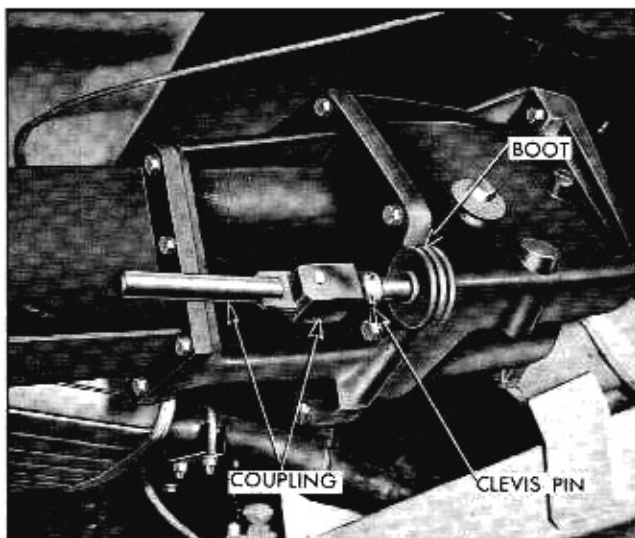

Fig. 7-8 Control Rod Coupling Assembly
4. Remove cotter pin and clevis pin securing control rod coupling to manual shift shaft (Fig. 7-8).
2. Install manual shift shaft and control rod coupling boot (Fig. 7-8).
3. Install control rod coupling on manual shift shaft and secure with clevis pin and cotter pin (Fig. 7-8).